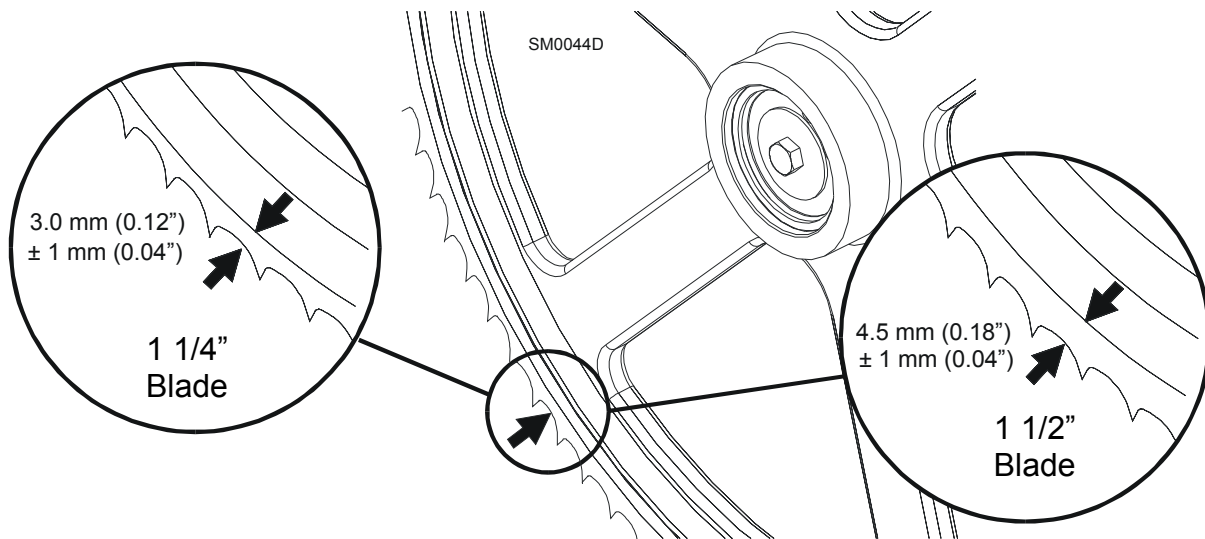

FIG. 5-2
**See Figure 5-2.** The blade wheels should be adjusted so that the gullet of 1 1/4" blades ride 3.0 mm (0.12") out from the front edge of the wheels ( $\pm 1.0$  mm [0.04"]). The gullet of 1 1/2" blades should ride 4.5 mm (0.18") from the front edge of the wheels ( $\pm 1$  mm [0.04"]). Do not let the teeth ride on